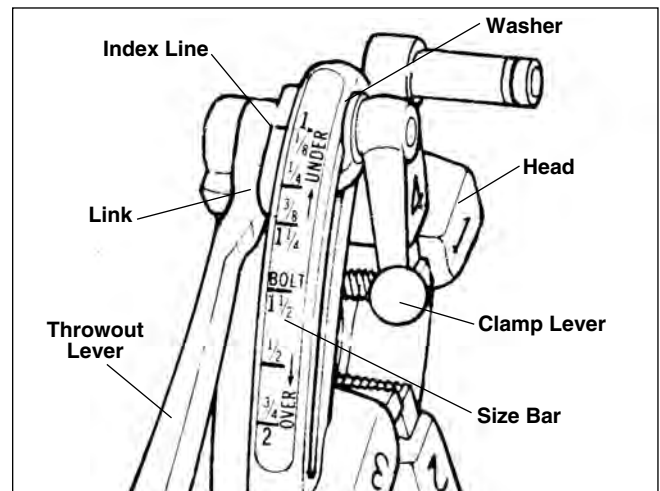

Figure 12 – Universal Quick-Opening Die Head
5. Quick-Opening 811A Die Head (Figure 12) – Rotate throwout lever to the CLOSED position.
10. Quick-Opening 811A Die Head (Figure 12) – When thread is completed, raise throwout lever to open position, retracting dies.
NOTE! The No. 811A Universal Die Head (*Figure 12*) for right hand threads requires four sets of dies to thread pipe ranging from $\frac{1}{8}$ " through 2". One set of dies is required for each of the following pipe size ranges: ($\frac{1}{8}$ "), ($\frac{1}{4}$ " – $\frac{3}{8}$ "), ($\frac{1}{2}$ " – $\frac{3}{4}$ ") and (1" – 2"). The $\frac{1}{8}$ " pipe dies are not available for left hand die head. Bolt threading requires a separate set of dies for each bolt size. No bolt dies are available for left hand universal die heads.